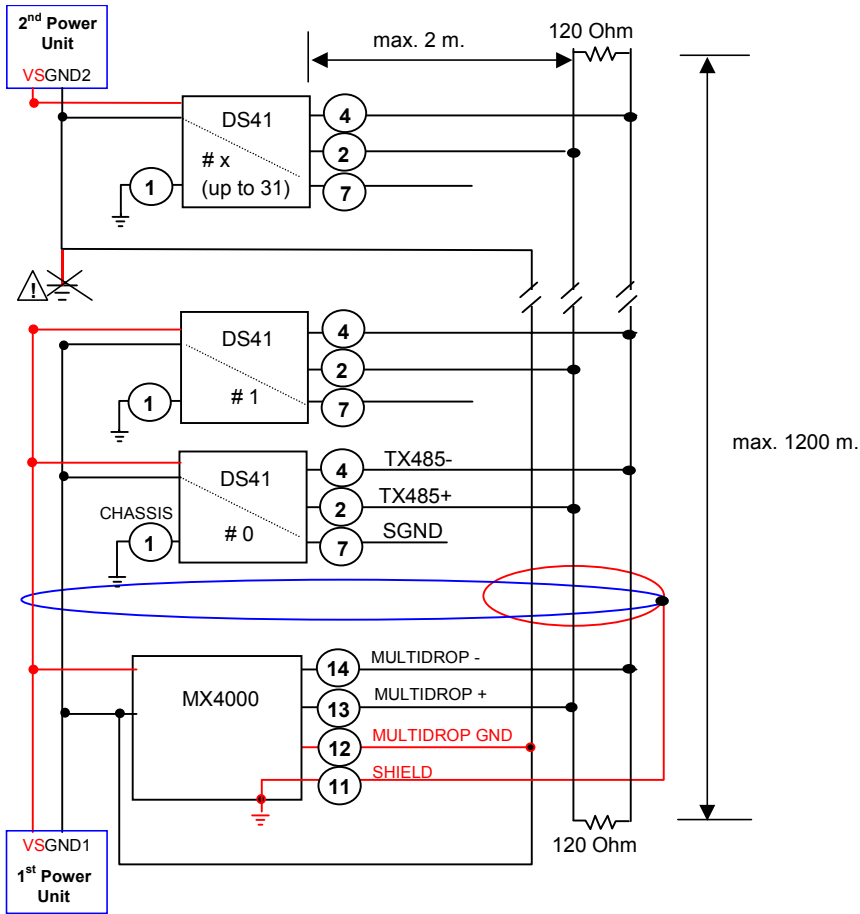

Figure 25 - Double supply single cable (power+multidrop line+shield)
- We suggest using the single cable layout shown in Figure 25 (multidrop+power). If not possible the separate DC voltage Power Cable (VS-GND) must be handled as a signal cable (do not put it together with other power cables) and must lie down as near as possible to the multidrop cable (avoiding wide loops between them).